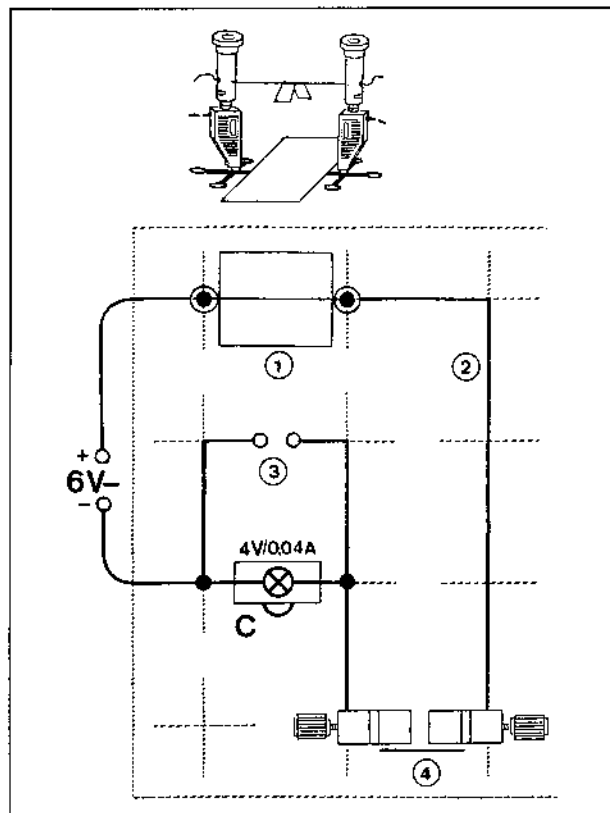

Fig. 2 Experiment setup: Model of a fuse (danger of making improvements)
7. Does the lamp in the circuit shown in fig. 2 light up?
10. In an experiment using the model shown in fig. 2, we demonstrate how foolish it is to make repairs to a fuse by replacing the thin fuse wire with a contact strip.